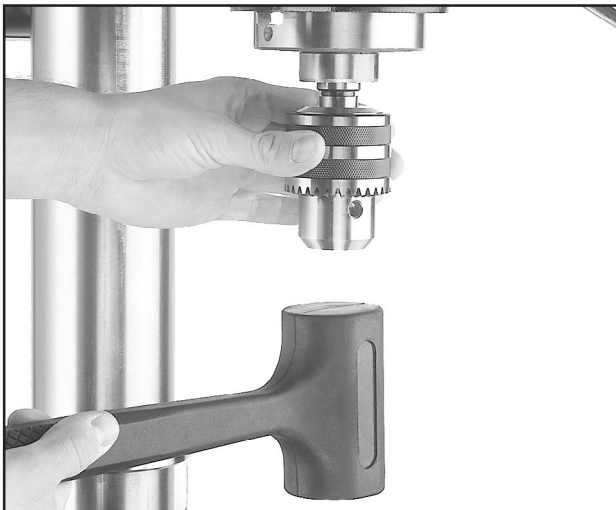

Figure 17. Seating arbor and chuck into spindle.
5. Seat the chuck with a rubber mallet, as shown in **Figure 17**.